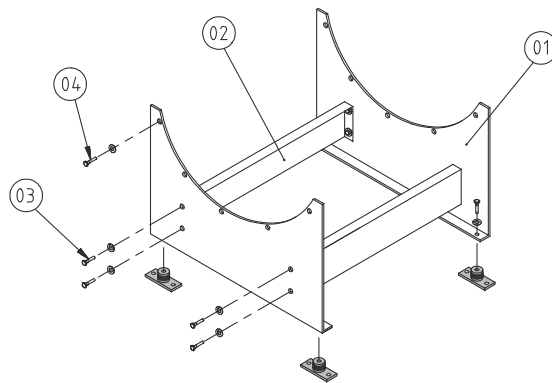

Figure 2. Assembly of horizontal support frame for ACN-ARN
Horizontal support frames consist of two mounting plates (see fig. 2, item 01), which are joined with stiffeners and screws (items 02 and 03). The stiffeners are used with fan sizes Ø630 and up. Vertical support frames are mounting plates onto which the fans are flange mounted.